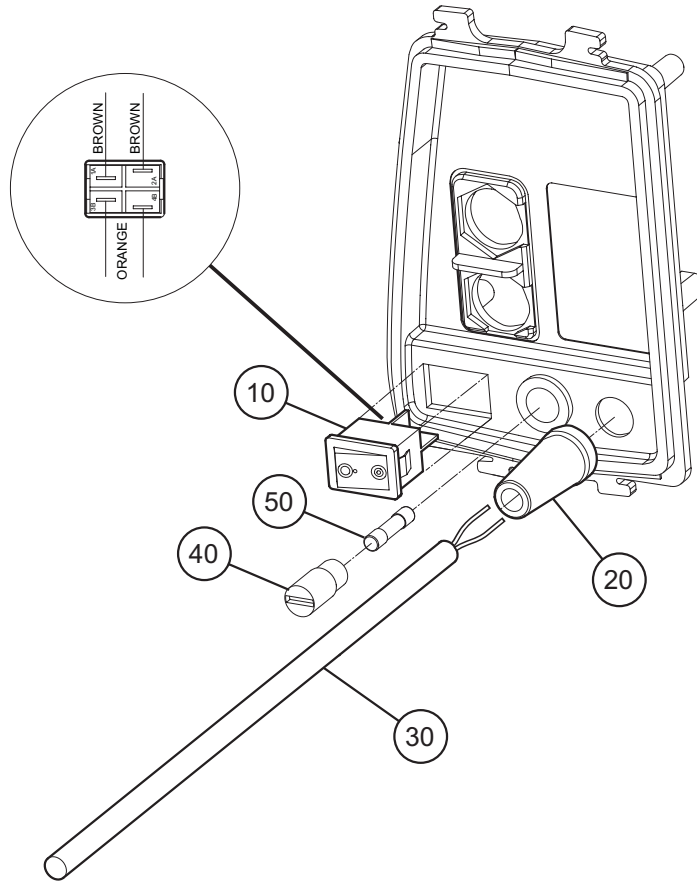

Figure 22 - Replacement of the Side Panel On/Off Switch
- 38.2 Pull off the electrical connections from the On/Off switch (Fig 22, Item 10).
- 39.2 Carefully withdraw the mains/power lead (Fig 22, Item 30) through the mains lead/power cord grommet.
- 39.3 Carefully withdraw the mains/power lead grommet (Fig 22, Item 20) through the side panel.
- 40.1 To replace the pump fuse undo the fuse holder (Fig 22, Item 40) and remove the fuse (Fig 22, Item 50). Replace with fuse of same type.